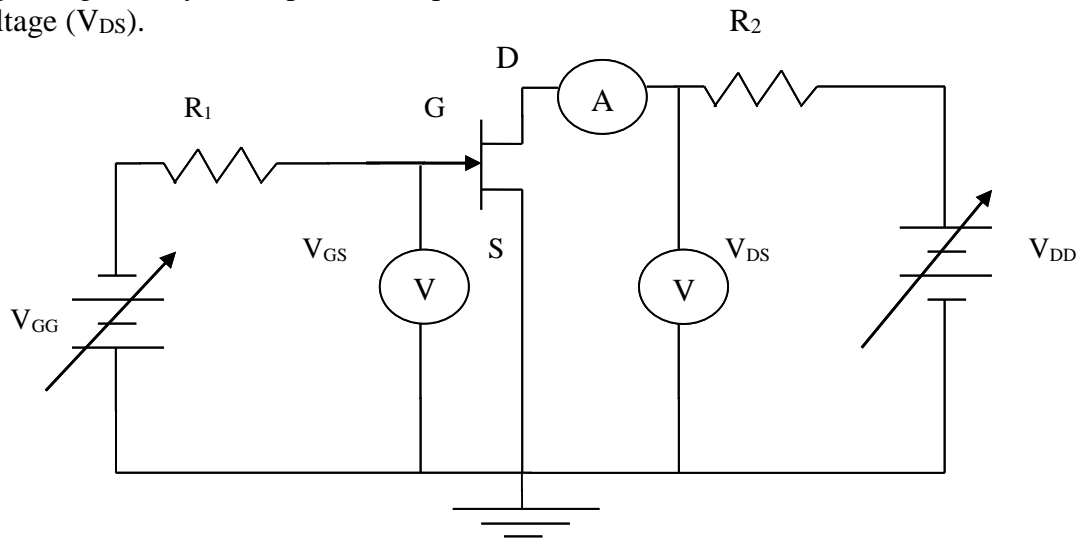

Fig 10.3 Circuit diagram
1. Connect the circuit as shown in the Figure 10.3.
1. Connect the circuit as shown in the Figure 10.3